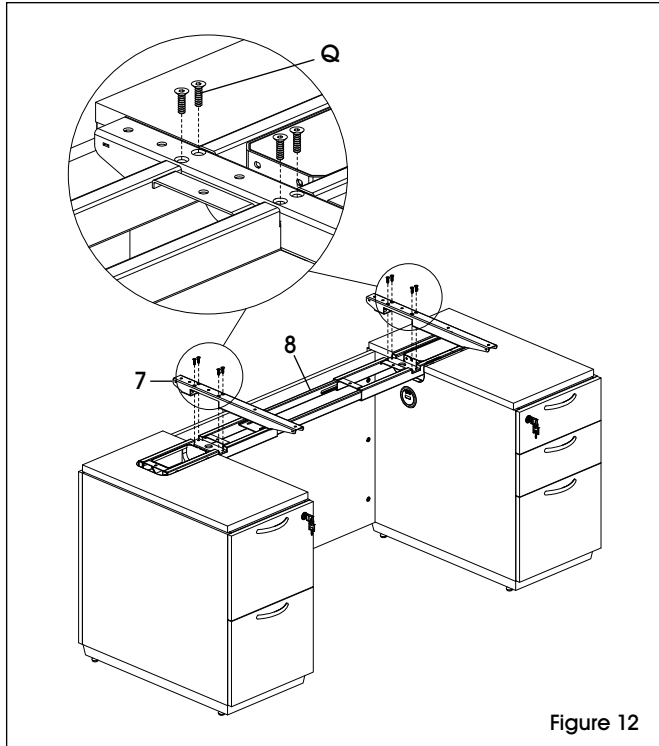

Figure 12
12. Attach top support brackets (7) to center frame (8) using eight M6 x 22 mm bolts (Q). (See Figure 12)